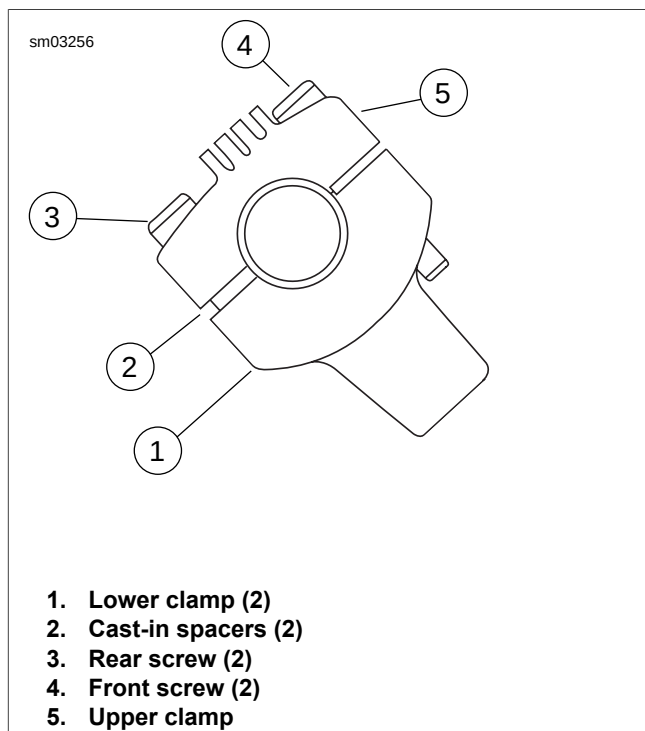

Figure 2-90. Handlebar Riser
- See Figure 2-90. Place handlebars on lower handlebar clamps. Install upper handlebar clamps. Install but do not tighten clamp fasteners.